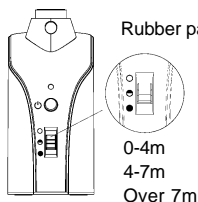

Figure 2
**02.** Select the distance selector of the virtual wall according to the actual requirements; pull the shift switch to the top position to select the low level(0-4m), to the middle to select the medium level(4-7m) and to the bottom to select the high level( above 7m) ; See figure 2. the lower level, the lower power consumption and the longer working time of batteries, therefore, you should try to select a lower level whenever possible.